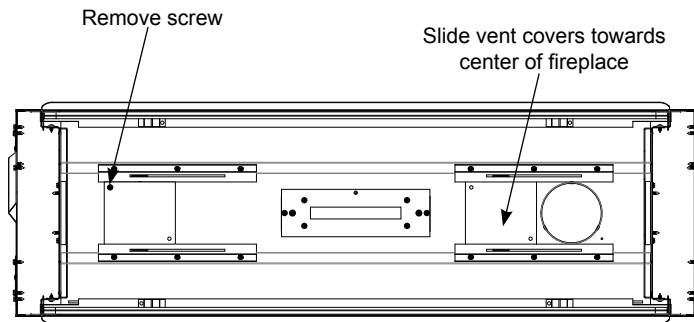

Figure 6. Opening vents (interior of fireplace)
10. Remove the screen from the unit and locate the two vent covers on the inside top of the firebox. Remove the screws holding the shutters in place and slide the shutters in place and slide to the center of the unit until completely open. (Figure 6). Opening shutters will allow heat to the exterior of the structure through the HMK.